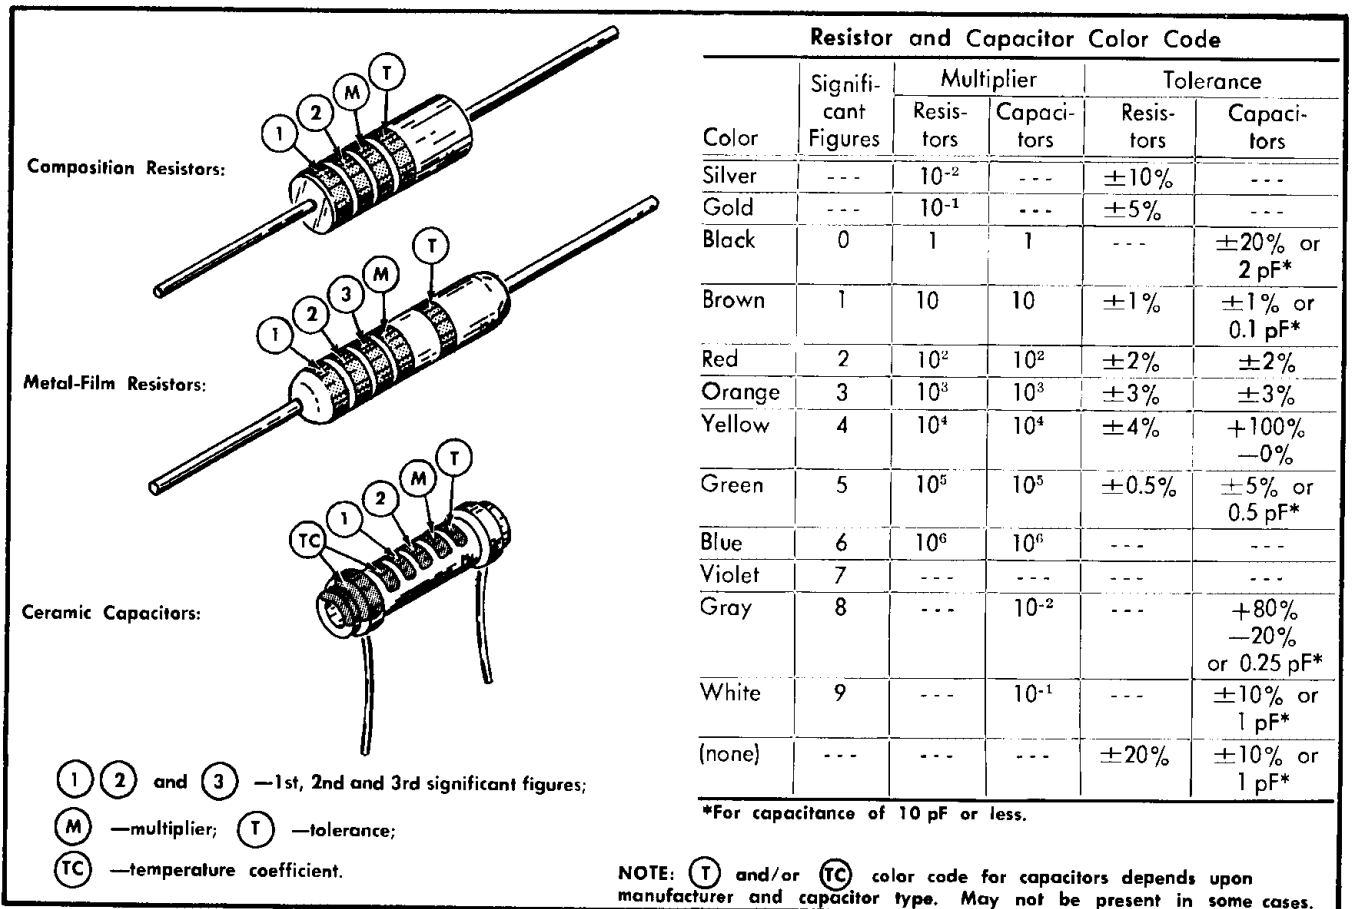

Fig. 4-2. Color-code for resistors and ceramic capacitors.
**Resistor Color-Code.** In addition to the brown composition resistors, some metal-film resistors (identifiable by their gray or blue body color) and some wire-wound resistors (usually light blue or gray-green) are used in the Type 3A3. The resistance values of wire-wound resistors are printed on the body of the component. The resistance values of composition resistors and metal-film resistors may have the value indicated on the body by means of the EIA color code. The color code is read starting with the stripe nearest the end of the resistor. Composition resistors have four stripes which consist of two significant figures, a multiplier and a tolerance value (Fig. 4-2). Metal-film re-
**Capacitor Marking.** The capacitance values of common disc capacitors and small electrolytics are marked in microfarads on the side of the component body. The white ceramic capacitors used in the Type 3A3 are color coded in picofarads using a modified EIA code (Fig. 4-2).